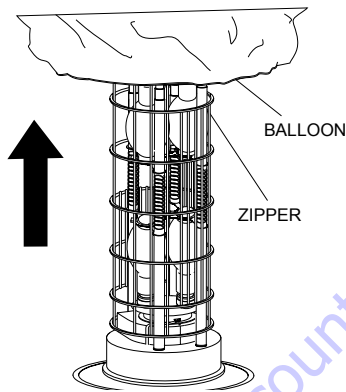

Figure 15. Exposing Balloon
1. Unzip the zipper at the bottom of the balloon and roll the balloon up to expose the lamp. See Figure 15.